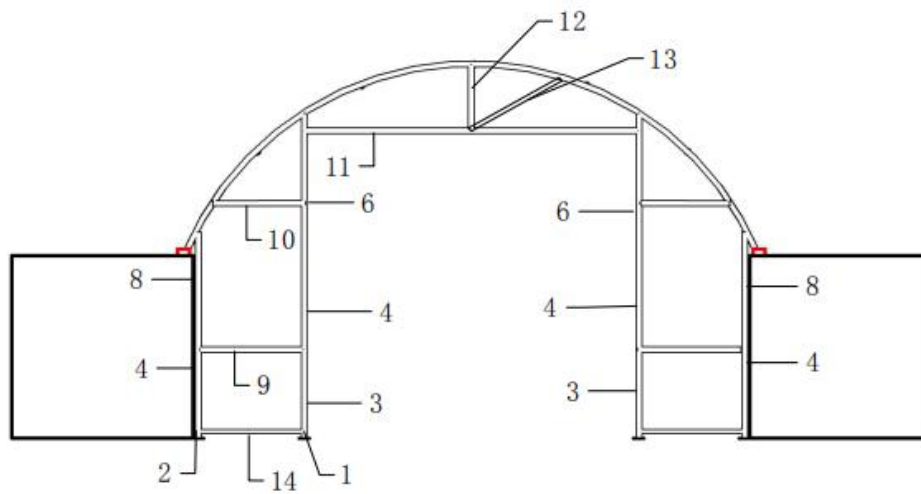

Figure 2
2. As the **Figure 2** Shows, please find all the parts accordingly.